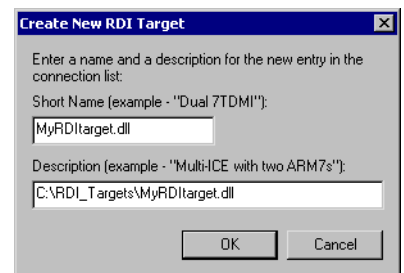

Figure 5-7 Create New RDI Target dialog box
3. Locate the required DLL, then click **Open**. The Create New RDI Target dialog box, shown in Figure 5-7, is displayed, and the **Short Name** and **Description** fields are set to the DLL filename and the path, respectively.